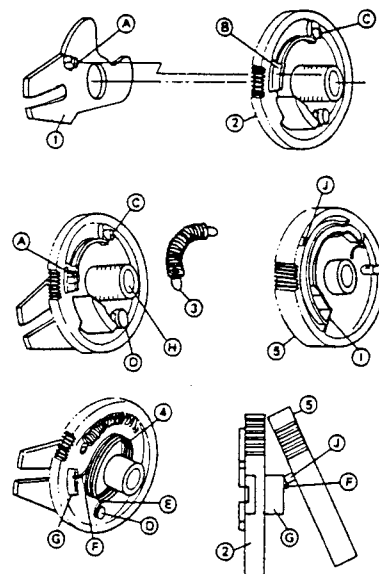

Figure 1-3.
- Set up of worm wheel assembly (Fig. 1-3)
1. Put the tab ④ of the drive arm ① into the hole ⑤ of the drive gear ②.
2. Hook both ends of the drive spring ③ onto the tab ④ of the drive arm and tab ⑥ of the drive gear respectively.
3. Hook one end ⑥ of the drive reciprocating spring ④ onto the tab ⑤ of the drive gear assembly and mount another end ⑦ of the drive reciprocating spring onto the tab ⑥ of the drive gear: this time, hold the end ⑥ of the drive reciprocating spring by hand.
4. Fit the tab of the worm wheel gear ⑧ onto the tab ⑥ of the drive gear.
5. Using a tapered screwdriver, hook the end ⑦ of the drive reciprocating spring onto the tab ① of the worm wheel gear: check that both ends of the drive reciprocating spring have been engaged with the respective tabs of the drive gear assembly.
6. Holding the drive gear by hand, turn the worm wheel gear by the other hand counterclockwise. Then the tab ③ of the drive gear will be engaged with the hole ① of the worm wheel gear ⑤.